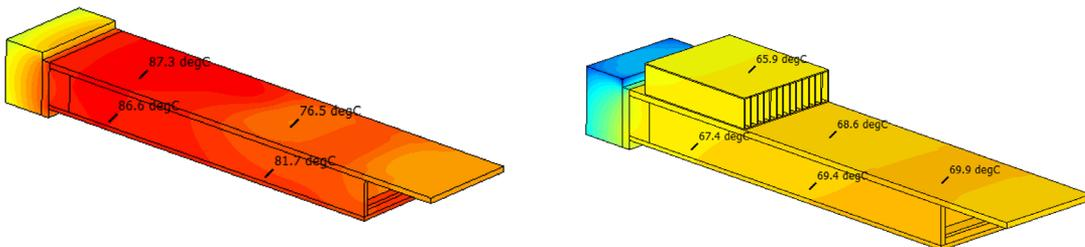

Figure 2 Surface Temperature Maps of Thermally Inefficient and Optimized High-power Optical Modules Under the Same Boundary Conditions
- And choosing DSPs (digital signal processors, the highest-power component of optical modules) that have efficient package thermal design, with low junction-to-case thermal resistance and higher junction temperature limit. Figure 2 depicts the surface temperature maps of thermally inefficient and optimized high-power optical modules.